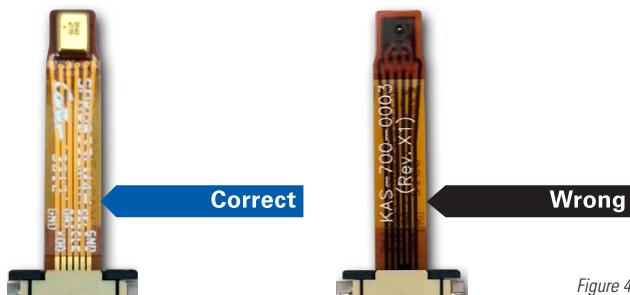

Figure 4
1. Connect one digital FLEX PCB Assembly to an Adapter PCB. The edge connectors must be visible. (Figure 4)
1. Connect one of the three Analog FLEX PCB Assemblies to an Adapter PCB (Figure 4).